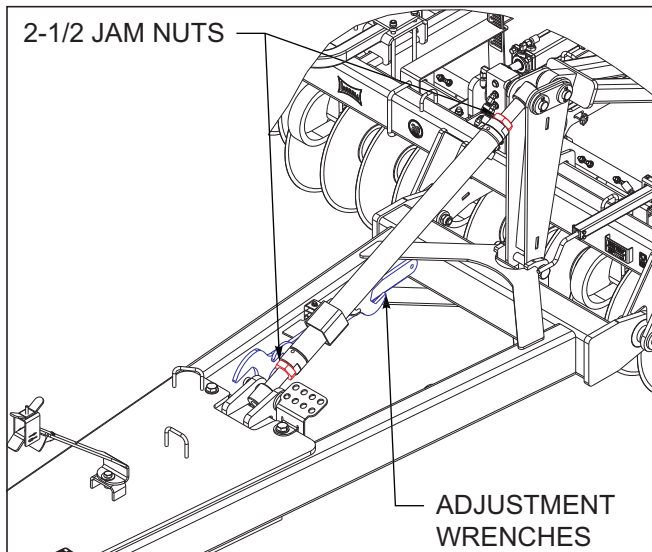

Figure 4-6: Radius Rod Leveling Adjustment
3. To adjust the leveling feature, loosen jam nuts at each end of the radius rod using the adjustment wrenches See Figure 4-6. To raise the front of the Coulter Chisel, lengthen the radius rod assembly. To lower the front of the Coulter Chisel, shorten the radius rod assembly. After adjusting, re-tighten jam nuts at each end. Adjustments should be made in small increments.